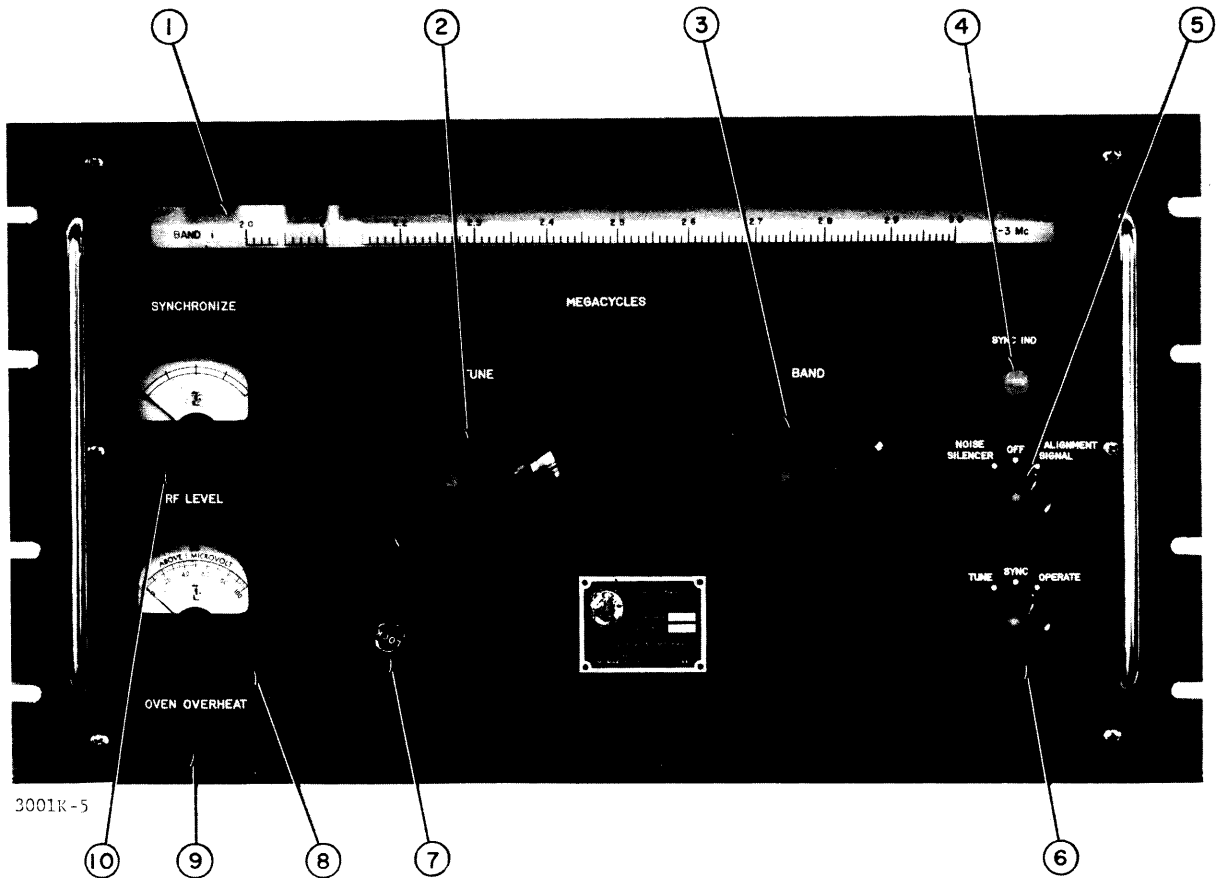

Figure 3-1. Panel Controls, HFR
a. CONTROL FUNCTIONS. - Front panel controls and indicators (figure 3-1) of the HFR are arranged to permit: ease of tuning through any of eight r-f bands to the desired frequency within the 2- to 32-mc range, non-synthesized continuous coverage operation or synthesized operation in 100-cycle steps, and alignment and sensitivity checks of the HFR. All operating controls are located on the front panel and are identified. Table 3-1 lists the controls and indicators, and the functions of each.